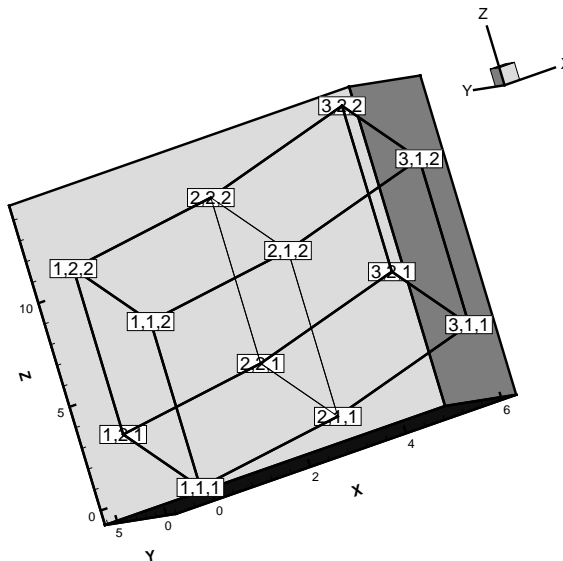

Figure 2-13. An IJK-ordered data set.
**IJK-Ordered Data in POINT Format Example.** An example of IJK-ordered data in **POINT** format is listed below. There are four variables (**X**, **Y**, **Z**, **Temperature**) and twelve data points. Each row of data corresponds to a data point; each column to a variable. This data is plotted in Figure 2-13; each data point is labeled with its IJK-index.